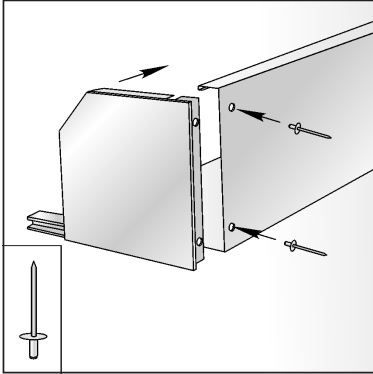

Fig. 15
- install X4x10 aluminium rivets and rivet the rear panel of the shutter box with end caps (Fig. 15);